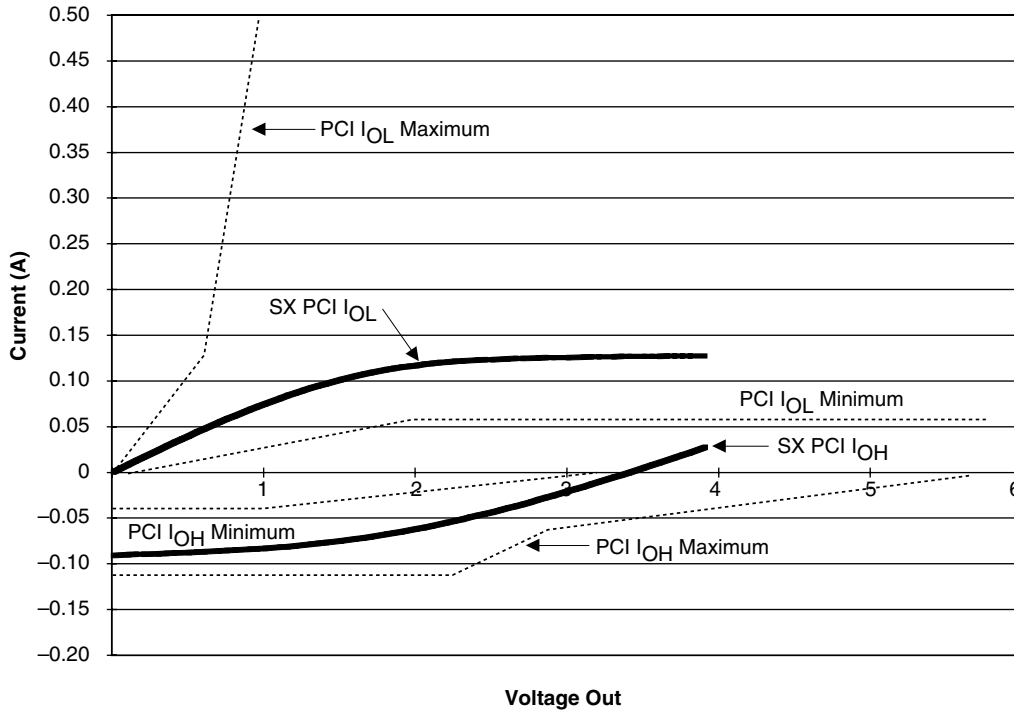

Figure 9 • 3.3V PCI Curve for A54SX16P Family
1. Refer to the V/I curves in Figure 9. Switching current characteristics for REQ# and GNT# are permitted to be one half of that specified here; i.e., half size output drivers may be used on these signals. This specification does not apply to CLK and RST# which are system outputs. "Switching Current High" specification are not relevant to SERR#, INTA#, INTB#, INTC#, and INTD# which are open drain outputs.
2. Maximum current requirements must be met as drivers pull beyond the last step voltage. Equations defining these maximums (C and D) are provided with the respective diagrams in Figure 9. The equation defined maxima should be met by design. In order to facilitate component testing, a maximum current test point is defined for each side of the output driver.
Figure 9 shows the 3.3V PCI V/I curve and the minimum and maximum PCI drive characteristics of the A54SX16P family.